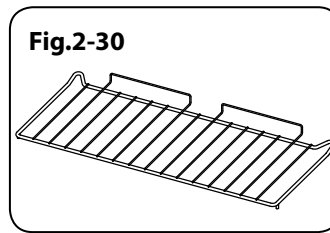

Fig.2-30
- Two full capacity shelves (Fig.2-30)